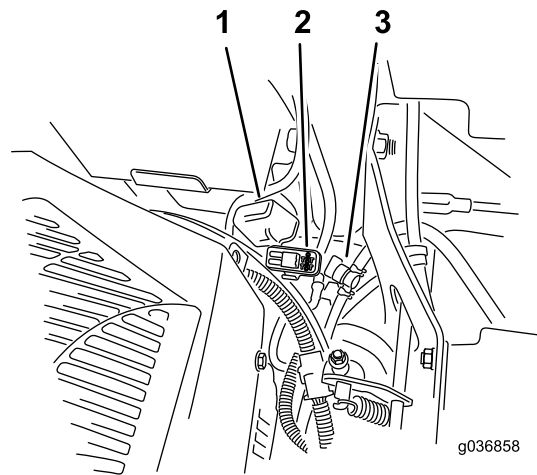

Figure 47
The fuses are located on the right console next to the seat (Figure 47).
2. Install a new fuse (Figure 47).